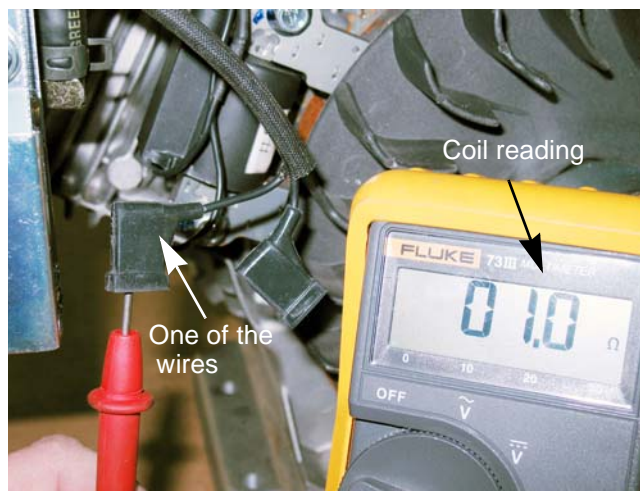

Figure 7.8
6. Connect the other lead of the multimeter to a good ground. See Figure 7.8.